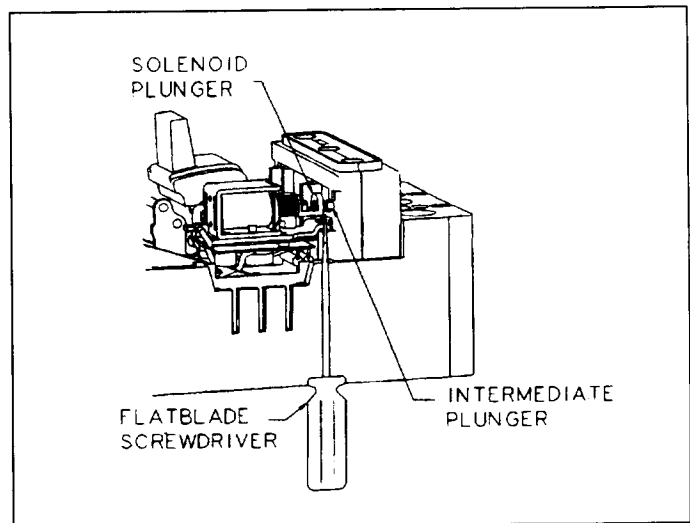

Fig. 2-6. Screwdriver Depressing Undervoltage Release Mechanism Solenoid Plunger
b. Press intermediate plunger into recess in trip unit and ensure that it does not fall out. Grasp the UVR so that the face of the solenoid plunger is pointed toward the breaker trip unit (See Fig. 2-6). Compress the solenoid plunger and slide the UVR downward into the breaker so that the UVR mounting bracket fits into the slots in the trip unit. When the UVR has been fully inserted, the spring-loaded pin on the UVR bracket will "click" into a pin recess and lock the UVR in place. Test that the UVR is secure by gently pulling the UVR upward; it should not pull out the trip unit.
- b. Mechanical check. Using a small flat-blade screwdriver (Fig. 2-6), push in and hold solenoid plunger. Switch circuit breaker to ON. Release solenoid plunger and check that circuit breaker trips.